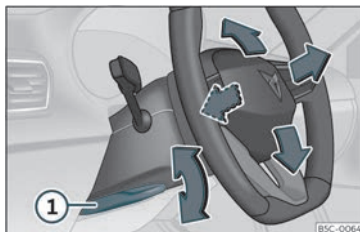

Fig. 8 Lever in the lower left side of the steering column.
- Pull the >>> **Fig. 8**  lever down, move the steering wheel to the desired position and lift the lever back up until it locks.
- After adjusting the steering column, push the lever >>> **Fig. 8**  firmly upwards to ensure the steering wheel does not accidentally change position while driving.